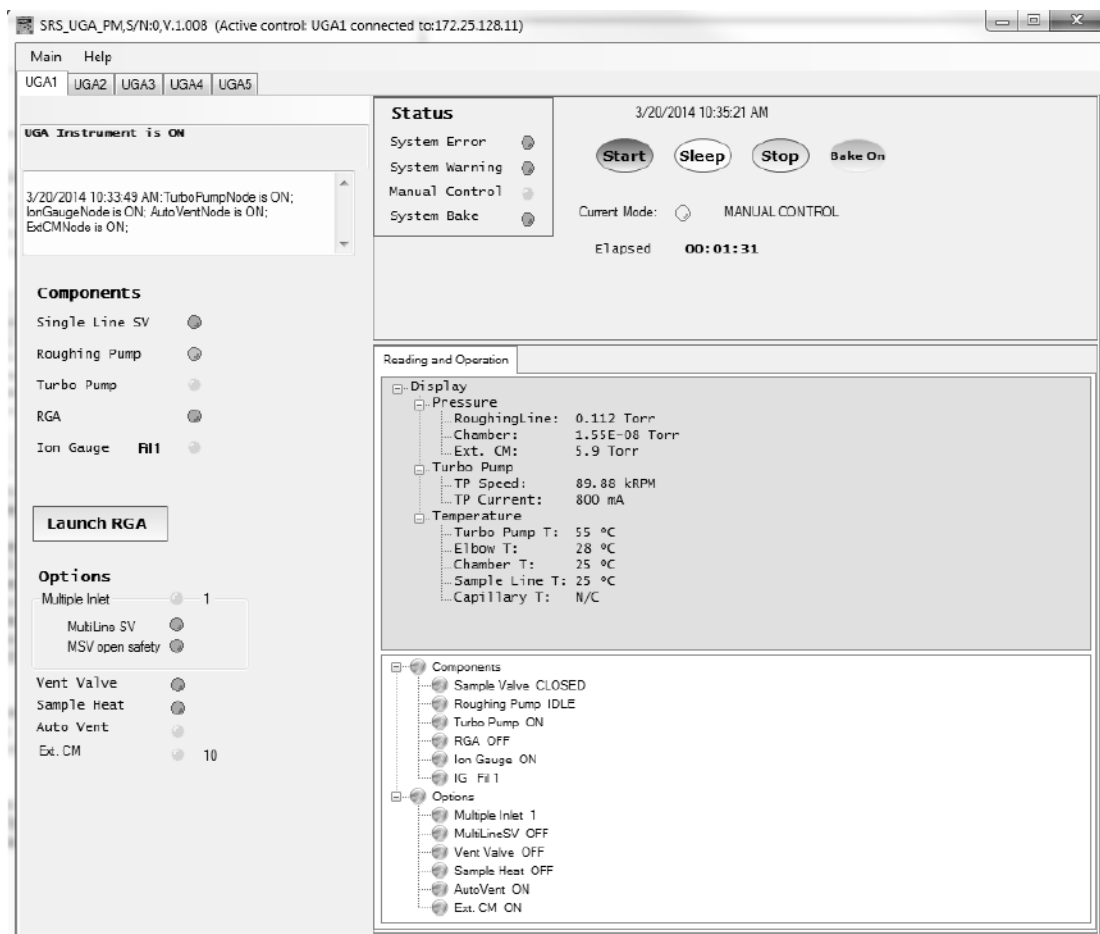

Fig. 2-12. Screenshot of UGA control software for UGAPM after the proper TCP/IP Ethernet connection. On the title bar, the connection status is shown.
- The program shows the complete present state. Fig. 2-12 (above) shows that the Multiple inlet is installed in this unit and positioned at #1 channel. The unit is in Manual Control state, etc.